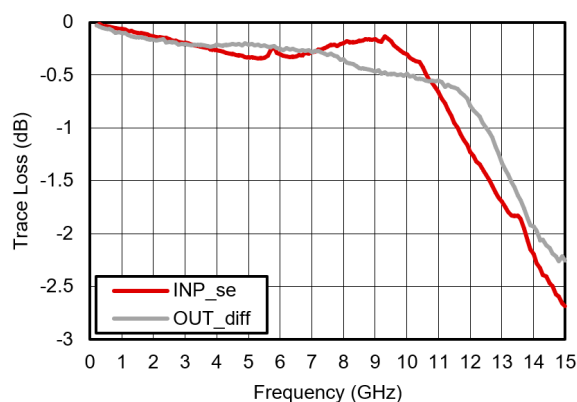

Figure 2-3. PCB Trace Loss vs Frequency
4. Account for board trace losses at the input and output side of the device during gain measurements. Figure 2-3 gives typical input and output trace losses measured on the EVM.
4. If the loss after the device output is significant, factoring the output loss into the NF measurement is important. Equation 1 shows the *Friis* equation for a cascaded noise factor used to calculate the NF of the device from the total measured NF. The noise factor of the device, F_1 , can then be extracted and converted into a logarithmic scale to give the TRF1213 NF. The loss of the EVM traces themselves is shown in Figure 2-3.
For output IP3 calculation, take into account the combined losses at the desired frequency band between the TRF1213EVM output to the spectrum analyzer input. The combined power loss is due to the PCB output trace, RF coax cable, 180° passive balun, and any attenuator pad used for external matching. Equation 2 gives the calculated OIP3. The loss at the output of the device, P_{LOSS} , is found using the combination of the Figure 2-3 and any attenuation added after the EVM.